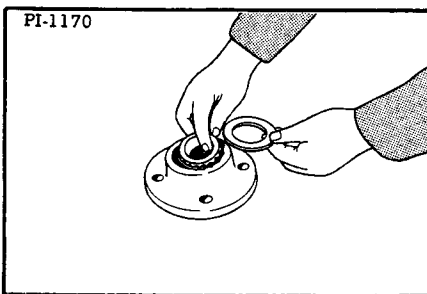

Fig. 76 Installing New Bearing & Seal
3. Install a new bearing and seal into the axle hub (Figure 76). The outer seal should be flush with the outer edge of the hub. Both seal lips must face inward.